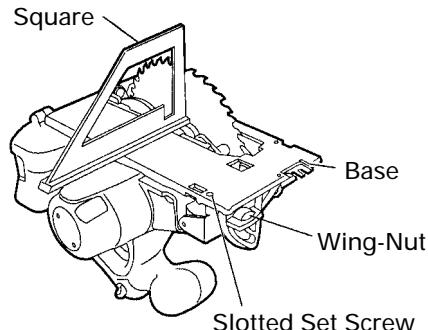

Fig. 24
- (1) Turn the base face up (Fig. 24) and loosen the wing-nut.
- (2) Apply a square to the base and the saw blade and, turning the slotted set screw with a slotted-head screwdriver, shift the position of the base to produce the desired right angle.